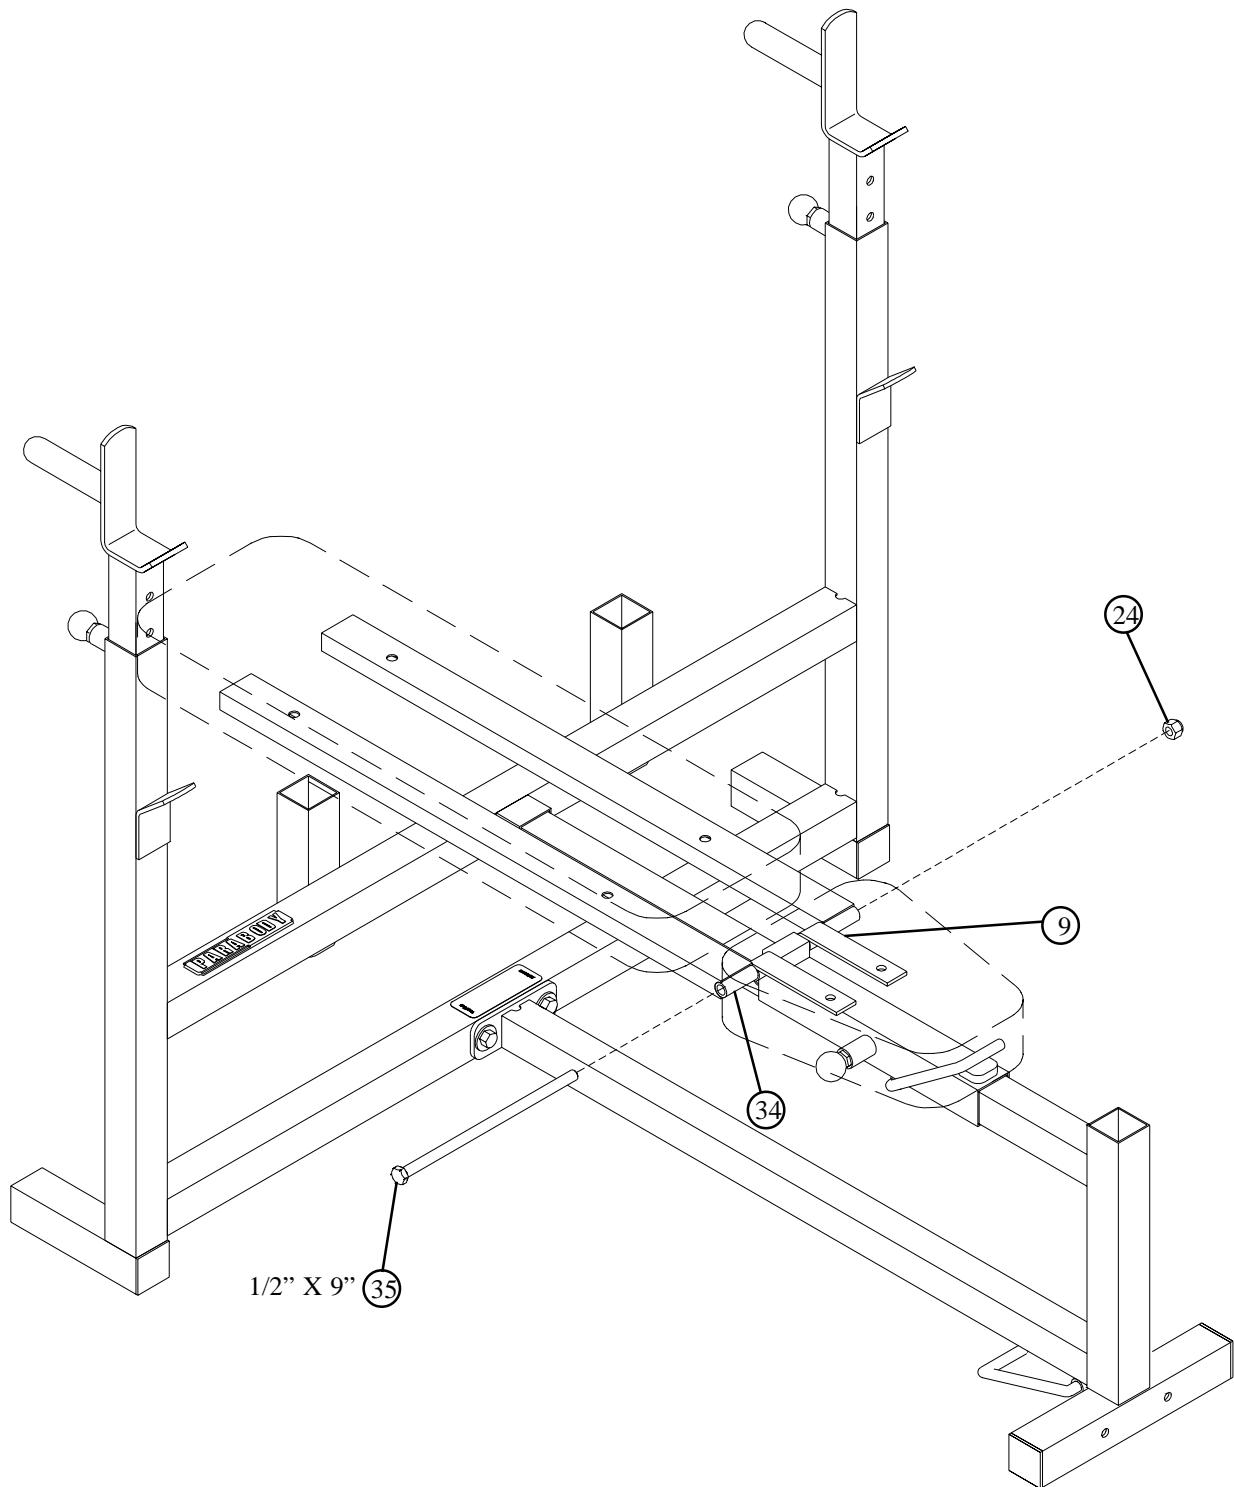

FIGURE 6
- Assembly pad assemblies by aligning BACK SUPPORTS (34) and HINGE TABS (9) with SEAT ADJUST (4) using one 1/2" X 9" BOLT (35) and one 1/2" JAM NUT (42) as shown in FIGURE 6.